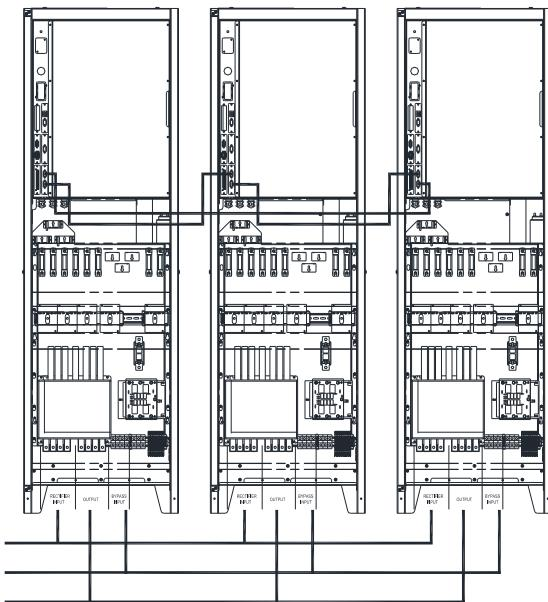
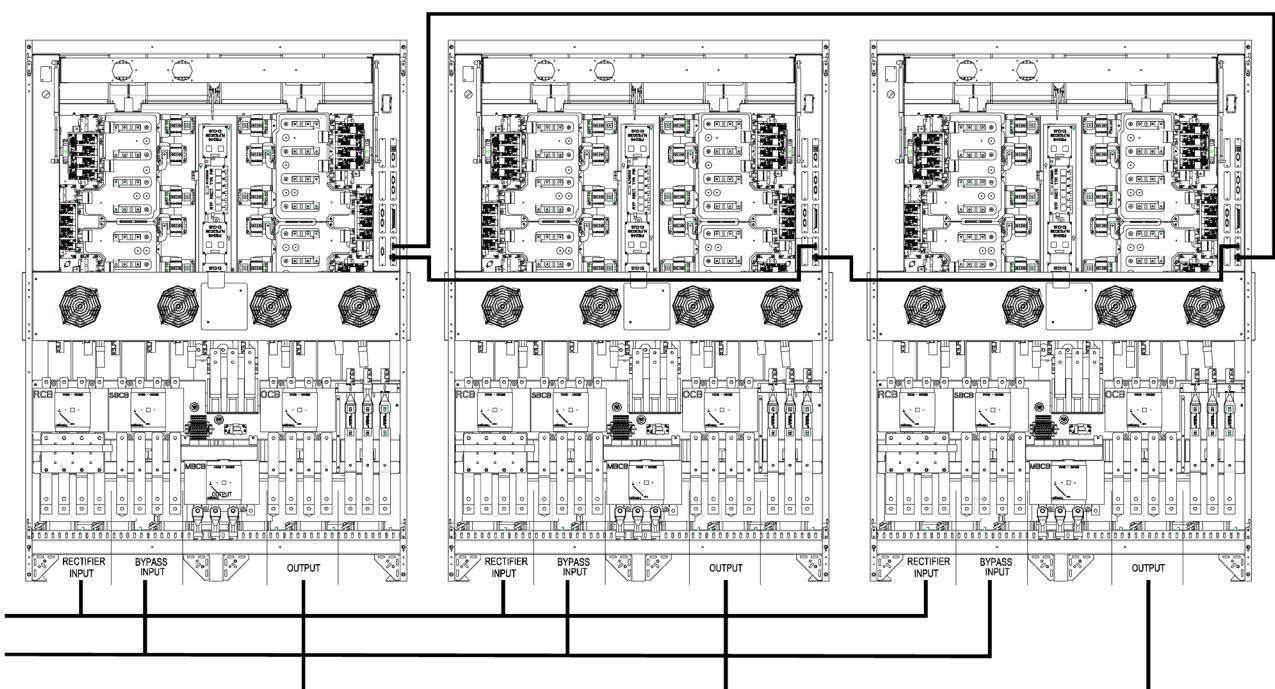

Fig. 39. Connection of three UPSs through the CAN bus for 80... 100 kVA devices.
Fig. 42. Connection of three UPSs through the CAN bus for 400 kVA devices
**!** To connect the UPSs in parallel, we recommend using cables of the same length and cross section for both input and output (see Fig. 39 to Fig. 42), in accordance with the units' power.